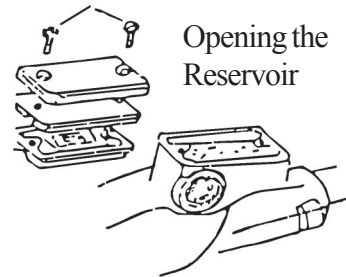

Fig. 5
3. To replace the brake fluid, open the reservoir and add fluid as required. (See Fig. 5)